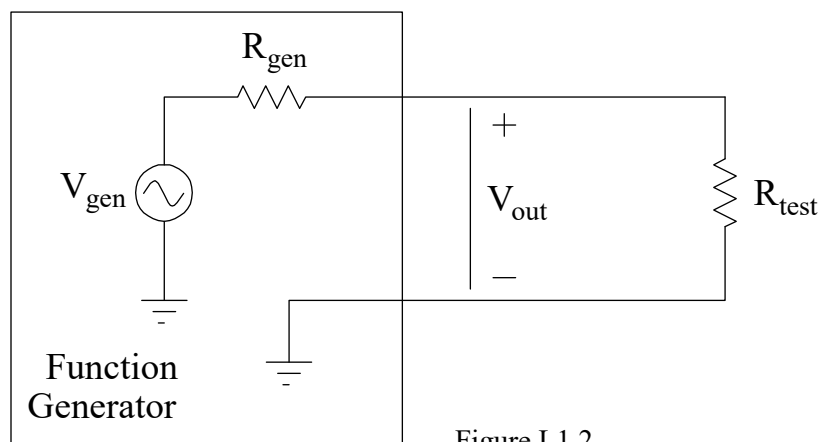

Figure L1.2
Measure the low frequency output impedance of the AD2's arbitrary waveform generator. Do this by hooking the output of the generator to a test resistor  $R_{test}$  of value from  $50\ \Omega$  to  $100\ \Omega$  to ground, as shown in Fig. L1.2. Before measuring this impedance, be sure to set the AWG output's jumper to the  $50\ \Omega$  source impedance.
In this configuration, the voltage  $V_{out}$  indicated in Fig. L1.2 takes the form
- Choose a test resistor  $R_{test}$  with value between  $50\ \Omega$  and  $100\ \Omega$  and hook up the circuit shown in Fig. L1.2. Make sure you measure and record the exact value of the chosen resistor using the DMM. Set the function generator to output a sinusoidal waveform with a reasonable choice of amplitude (e.g., 1V) and a frequency of 10 kHz or lower. Measure the amplitude of  $V_{out}$  using your oscilloscope (with a properly compensated probe).